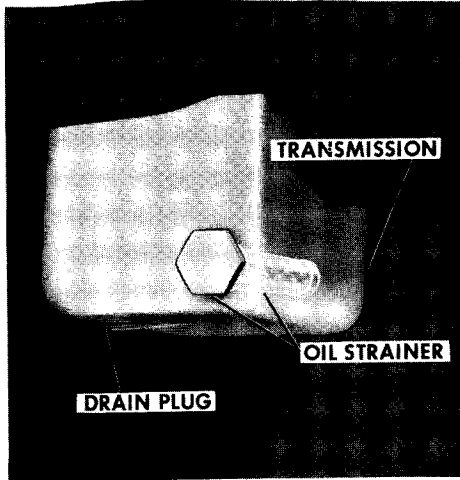

Figure 11
1. Remove the drain plug from the transmission, Figure 11.
2. Remove the transmission oil strainer, Figure 11 and clean with mineral spirits using a soft bristle brush. Reinstall clean strainer in transmission.